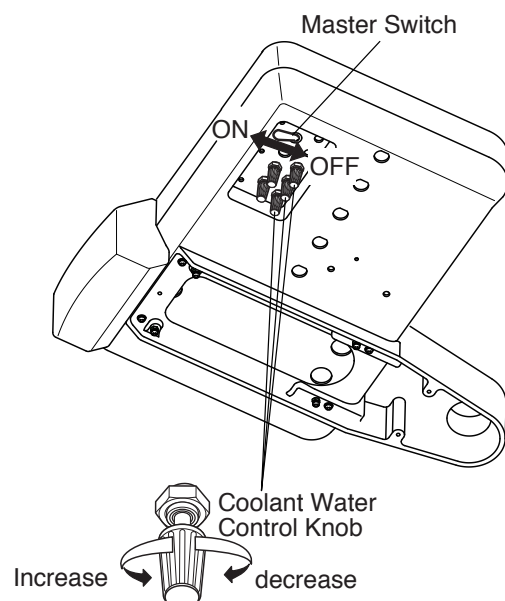

Fig.2-23 Bottom View of Doctor Table
- 3) As the unit is ready to run, turn on the Master Switch located underneath the doctor table (see Fig.2-23.), then run the saliva ejector for a while to flow the water through the unit and make sure no leakage takes place at the utility section.
See Fig.2-23 & 26.